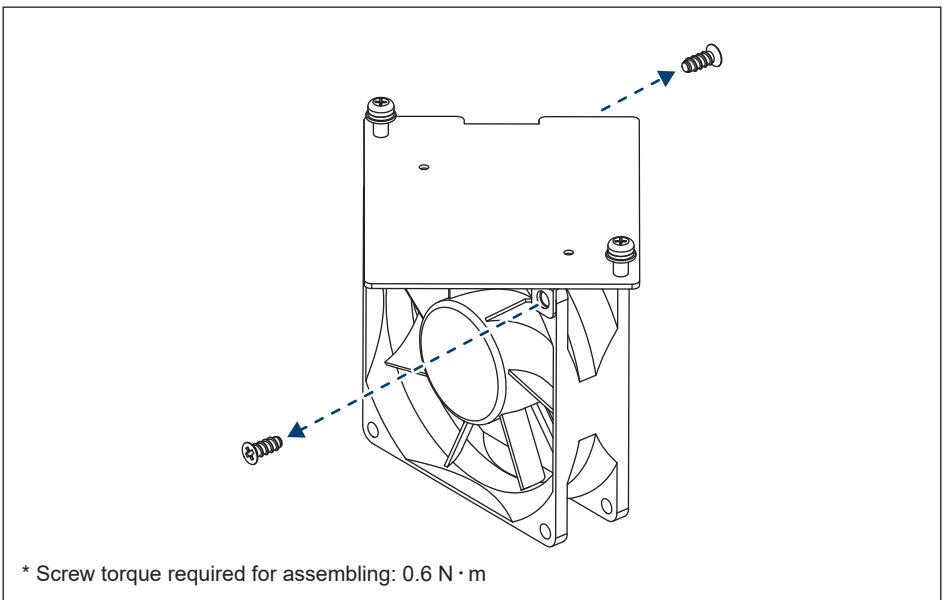

Figure 5-14: Replace with a new fan
- (4) Lift the entire fan assembly. **(Figure 5-14)**
- (5) Clean assembly or replace with a new fan.
- (6) Reassemble by using 0.8 N · m tightening torque.